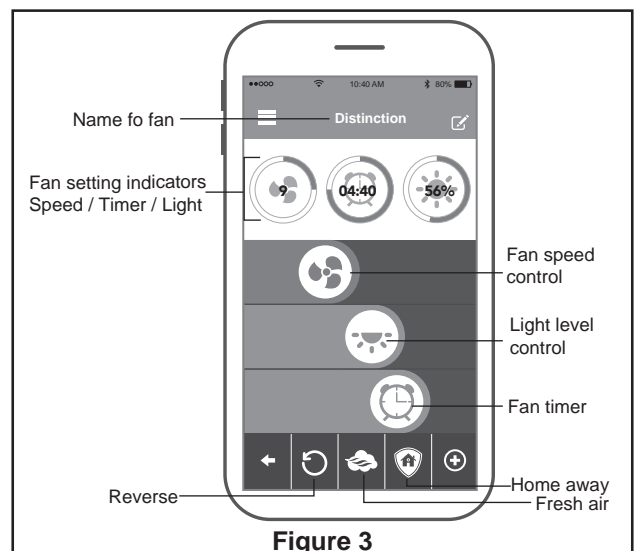

Figure 3
3. Fan functions as show. (Figure 3)